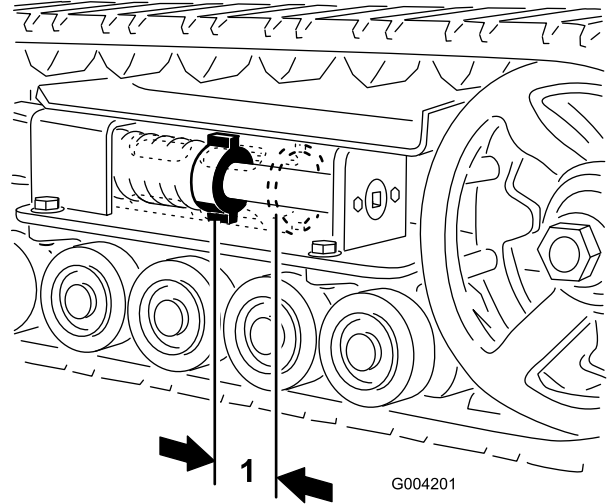
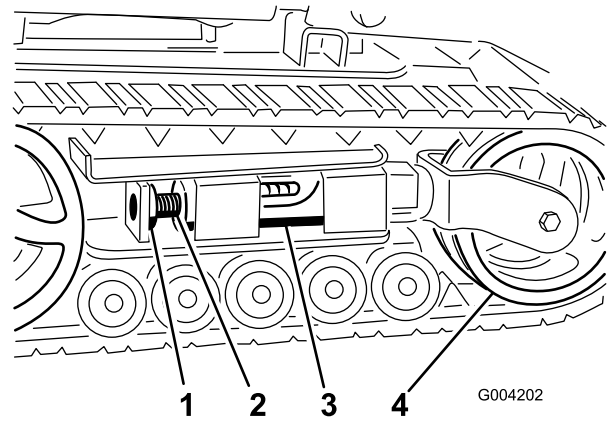
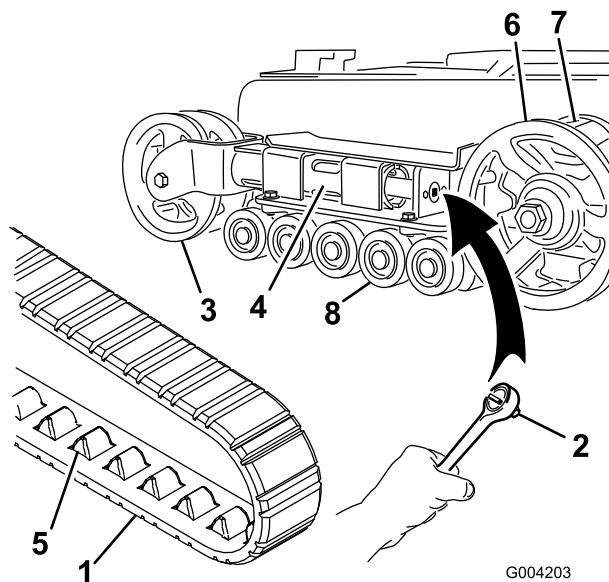

Figure 61
Figure 62
Figure 63
There should be 2-3/4 inches (7 cm) between the tension nut and the back of the tension tube (Figure 61). If not, adjust the track tension using the following procedure:
3. Remove the locking bolt and nut (Figure 62).
4. Using a 1/2 inch drive socket (Figure 63), turn the tensioning screw counter-clockwise until the distance between the tension nut and the back of the tension tube (Figure 61) is 2-3/4 inches (7 cm).
- Align the closest notch in the tension screw to the locking bolt hole and secure the screw with the locking bolt and nut (Figure 62).
- Remove the locking bolt and nut (Figure 62).
- Using a 1/2 inch drive socket, release the drive tension by turning the tensioning screw clockwise (Figure 62 and Figure 63).
- Push the tension wheel toward the rear of the unit to move the fork tube against the frame (Figure 63). (If it does not touch the frame, continue turning the tensioning screw until it does.)
- When the track is off of the tension wheel, remove it from the drive sprocket and road wheels (Figure 63).
the track fit between the spacers on the sprocket (Figure 63).
- Push the track under and between the road wheels (Figure 63).
- Turn the tensioning screw counter-clockwise until the distance between the tension nut and the back of the fork tube (Figure 61) is 2-3/4 inches (7 cm).